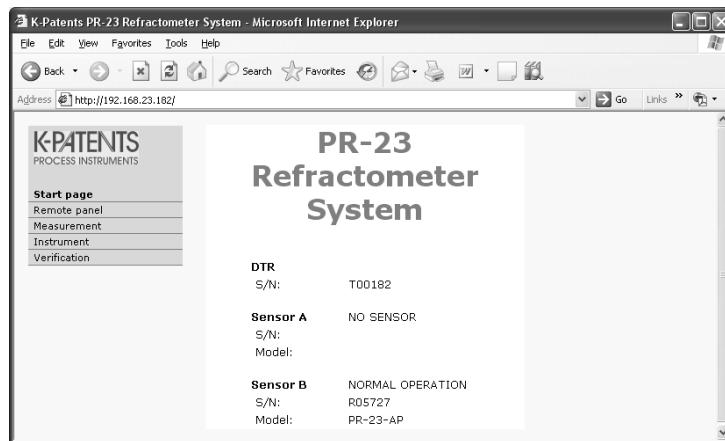

Figure 12.10 Instrument homepage open in a browser
3. The address (URL) of the instrument homepage is the DTR's IP address, for a factory set DTR it is <http://192.168.23.254/> (the figure 12.10 above uses a different address, not the default). Give the address to the browser just like you'd enter any other address (for example <http://www.kpatents.com/>)
If the page looks strange in the first try, refresh/reload the page and it should settle to look approximately like in Figure 12.10; the exact look of the page depends on your browser and screen settings so slight variation can be expected.